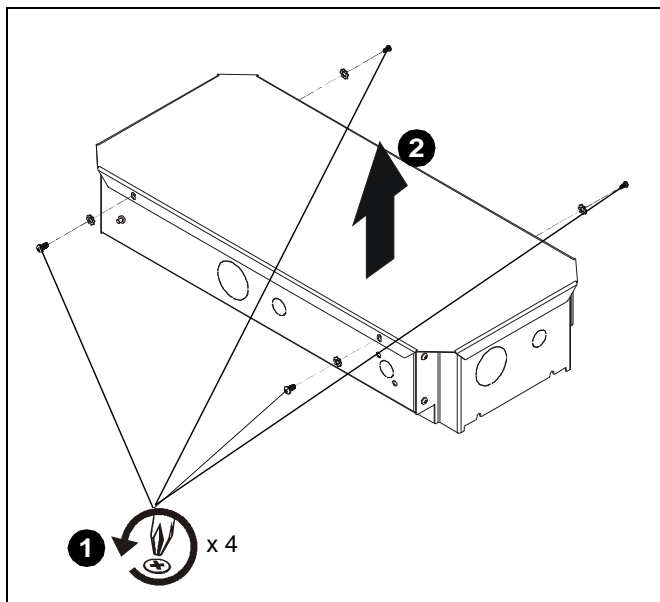

Figure 4
1. Remove four screws holding top cover to CMA473 box (A). (See Figure 4)
2. Lift top cover up from CMA473 box (A). (See Figure 4)